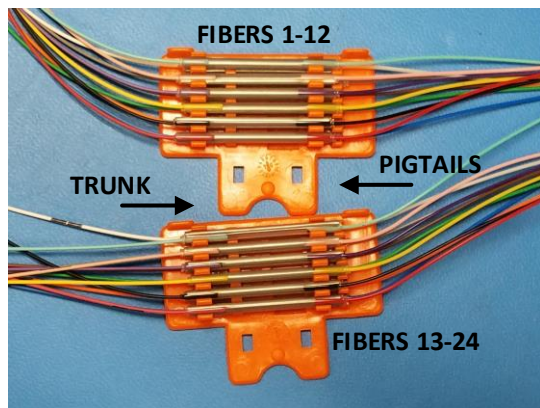

Figure 8
**4.2** As determined by fiber count, load fibers into the Splice Chips as shown in **Figure 8**.